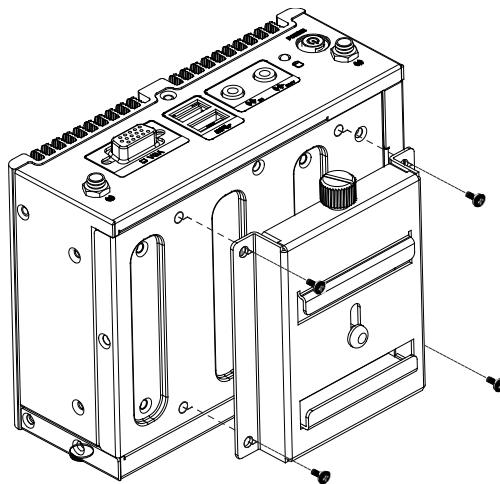

Figure 3-16: DIN Rail Mounting Bracket
- Step 1:** Attach the DIN rail mounting bracket to the bottom panel of the embedded system. Secure the bracket to the embedded system with the supplied retention screws (**Figure 3-16**).